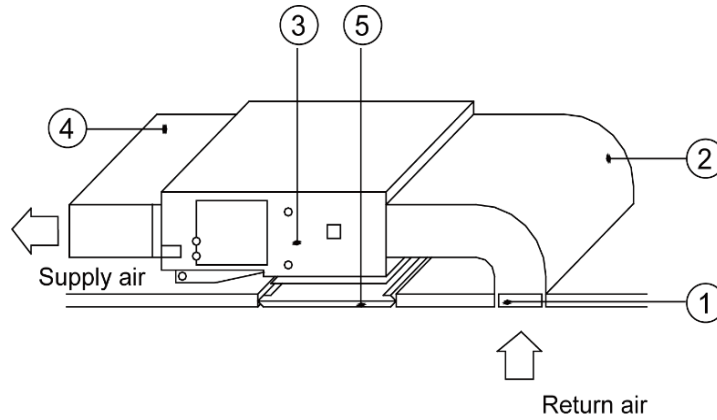

Fig23
- 1) The installation method can be chosen with considering the conditions of the building and maintenance etc., as shown in Fig23.